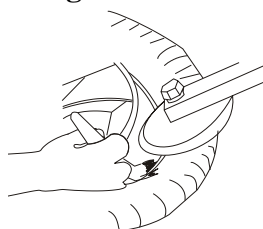
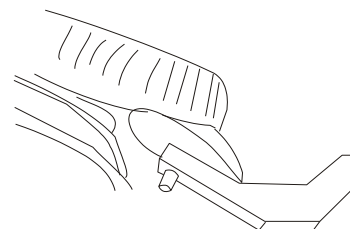

Fig 7
Fig 8
2. Adjust the flange center position by the controller; lower the upper bead breaker disk to within 20mm over the rim until the upper bead is broken away from the wheel rim, lubricate as shown in Fig 7 within depress the rotating pedal. Raise the lower bead breaker roller; by pressing up its controller on the control panel to break the lower bead away from the wheel rim, and then lubricate the tire beads with depress the turntable rotation pedal until full lubrication (Fig 8)